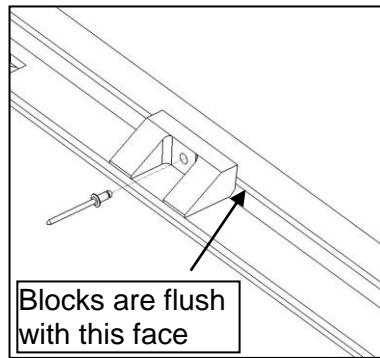

Figure 5
7. Refer to **Figure 5**. Use rivets to fasten the guide blocks to baseplate.